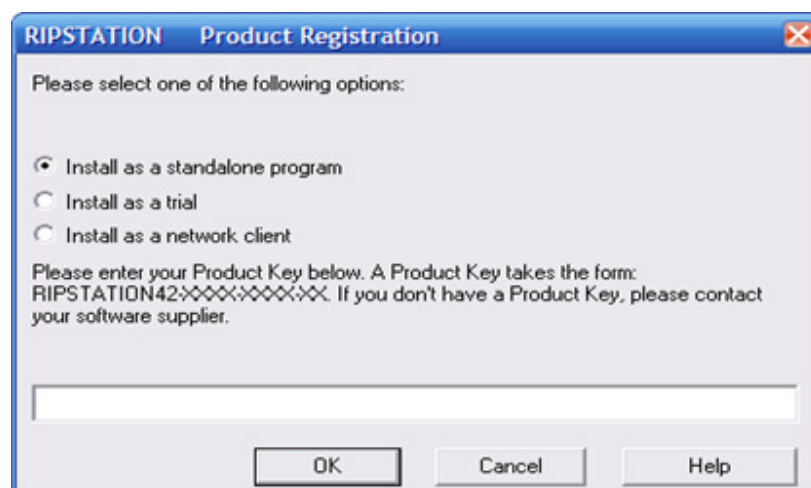

Figure 1.0 Product Registration Code Screen
- When prompted, as shown in figure 1.0, please key in the registration code supplied at the time of purchase and click ok.